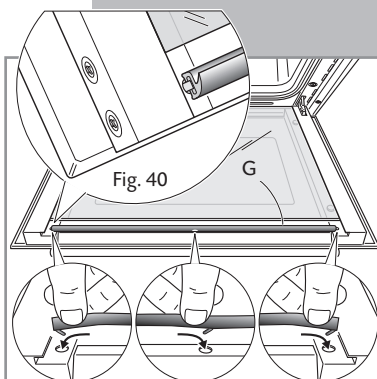

Fig. 41 TOP RIGHT OVEN DOOR ONLY
- **Top right oven door only:** Reassemble the seal **G** in the correct way (fig. 40) by hooking the no. 3 fixing hooks in the proper holes (fig. 41).